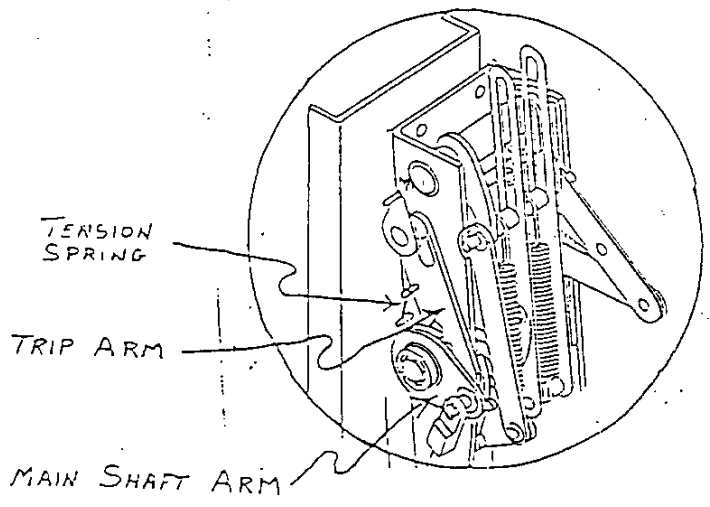

FIGURE 14
12. Place trip arm #2 back in its original position and replace tension spring #1. Figure 14.